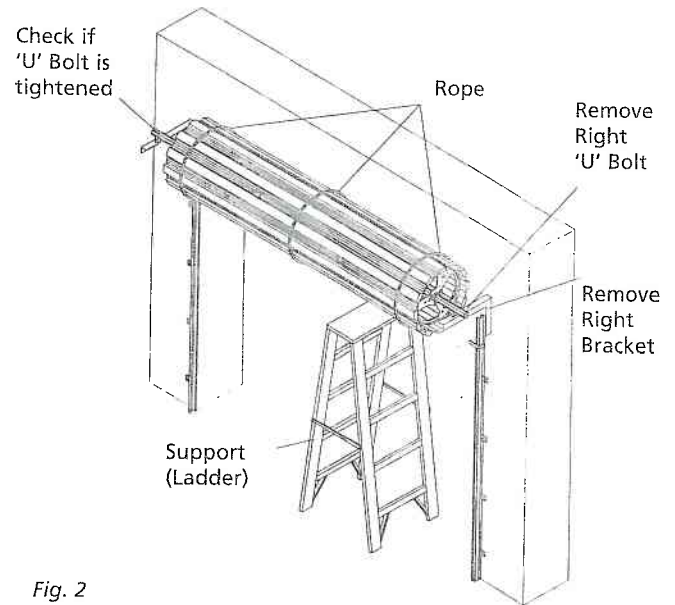

Fig. 2
- c) Support the right hand end of the door with a suitable prop, e.g. step ladder and soft padding to protect the door surface (Fig. 2)